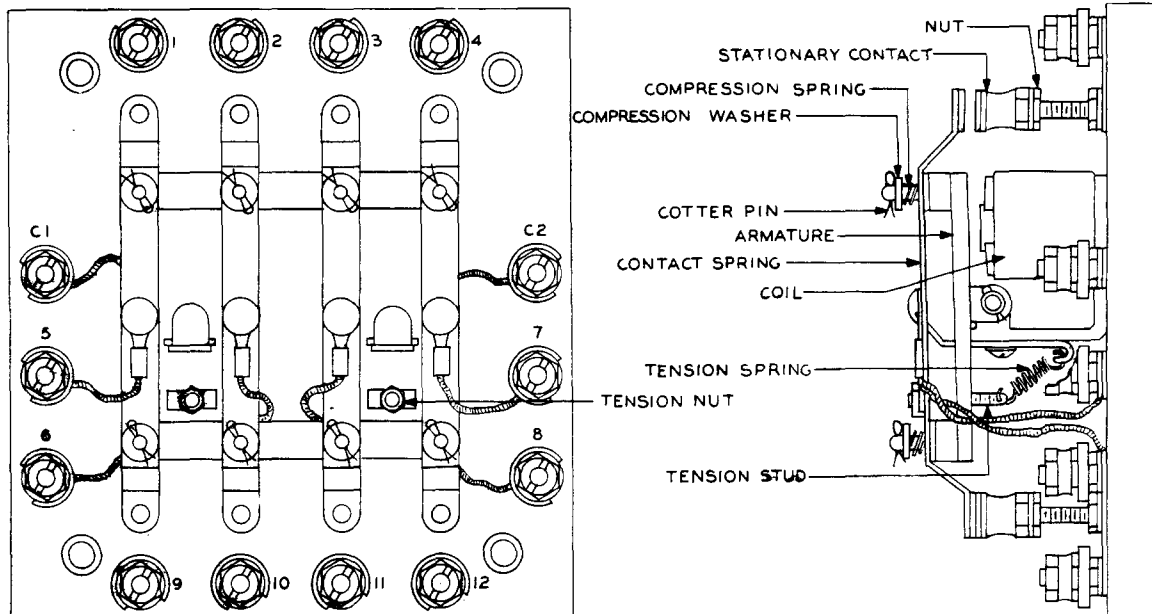

Fig. 1 - Control Relay (STRUTHERS-DUNN)
3.05 Contact Spring - Moving Contacts: (See Fig. 1 and 3.) To replace a moving contact, it is necessary to replace the complete contact spring which includes the moving contacts and the pigtail. To replace a contact spring, remove the cotter pins using the pliers, lift off the compression washers and the compression springs. Disconnect the pigtail from the terminal stud and remove the contact spring complete with the pigtail. Substitute the new contact spring and reassemble in the reverse order.
3.06 Tension Spring: (See Fig. 1 and 3) To replace the tension spring, remove the tension nut by raising the tension stud so the nut clears the stops and remove the nut. This will free the stud. Unhook the tension spring from the armature stop and the stud, using the pliers. Substitute the new tension spring and reassemble in the reverse order.
3.07 Stationary Contact: (See Fig. 1.) To replace a stationary contact, use the No. 417A wrench to turn the stationary contact in a counterclockwise direction and with another No. 417A wrench, hold the nut under the stationary contact. Remove the stationary contact. Install the new contact in the reverse order.
3.08 Coils: (See Fig. 1 and 3.) Mark and disconnect the coil leads from the terminal studs. With a screwdriver, dig out the sealing compound which covers the coil mounting screws in the rear of the base. Remove both coil mounting screws. This will free the armature, frame, armature stop, and the four contact springs as a unit. The coils will also be free. Remove the coil. Disconnect the coils from each other. Lift out the center core from the old coil. Insert the core in the new coil and reassemble in the reverse order.
3.09 Armature: (See Fig. 1 and 3.) To replace the armature, remove all contact springs as outlined in 3.05 except it may not be necessary to remove the pigtails from the terminal studs. Release the tension spring at the end nearest the armature as outlined in 3.06. Remove or release the armature pivot pin or screw. Substitute the new armature and reassemble in the reverse order.